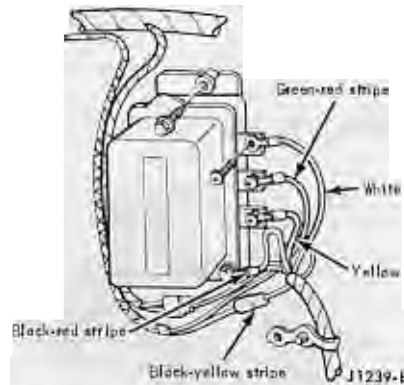

FIG. 4—Regulator Mounting—Ammeter Circuit
4. Position the regulator and install the mounting screws. Mount the black-red stripe ground wire lug under the mounting screw at the ground strap end of the regulator. (Fig. 4 or 5).
5. Connect the remaining regulator wires (Fig. 4 or 5).